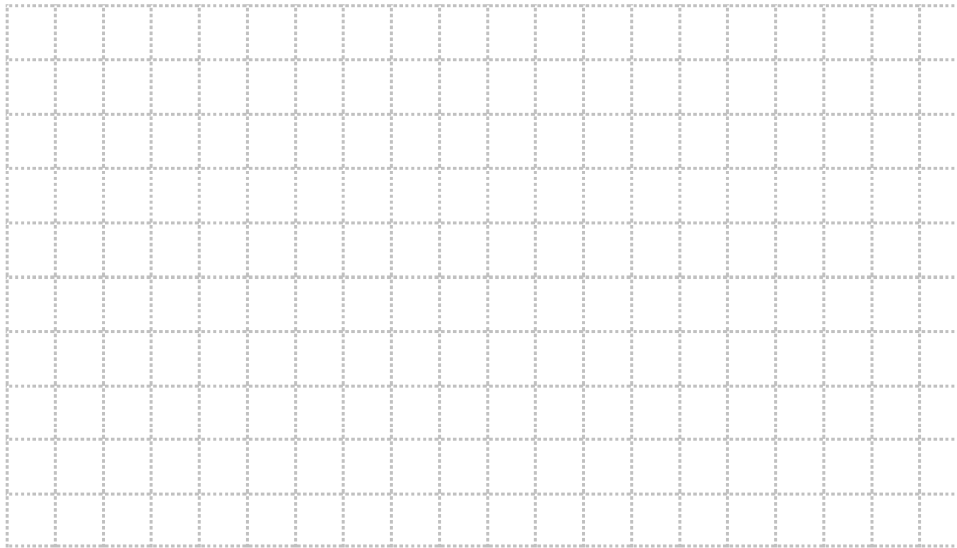

Figure 1-8. Flow rate versus speed curve.
- 17. Plot the flow rate versus speed (50 Hz  $\approx$  2875 r/min) curve in Figure 1-8.